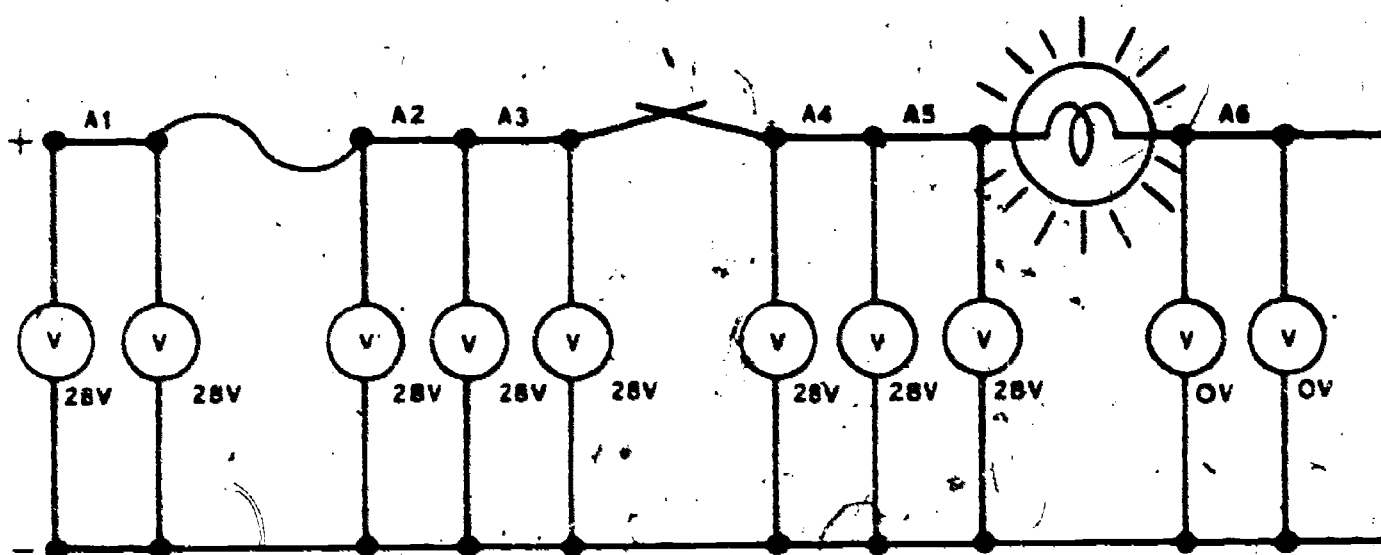

Figure 43. Normal Voltmeter Indications
**LOCATING OPENS.** Opens may be located in circuits, where power can be left ON, with a voltmeter. Figure 43 shows voltmeter indications in a normal operating circuit.